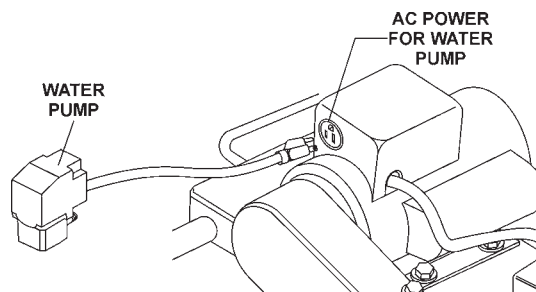

Figure 6. Water Pump Power Connection
6. Insert the water pump **power plug** into the outlet receptacle on the electric motor conduit box as shown in Figure 6.